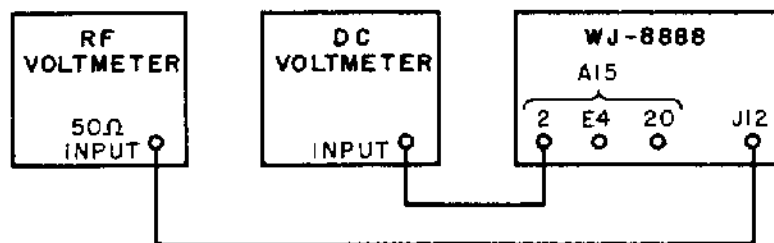

Figure 5-29. Test Setup, 1st LO Alignment
- (1) Turn the receiver off.
- (2) Connect the equipment as shown in Figure 5-29.
- (3) Turn the receiver on and put the RCVR CONTROL in the LOCAL mode.
- (4) Tune the receiver to 00.500 00 MHz.
- (5) The voltage at pin 2 of A15 should be approximately +9.7 V dc.
- (6) Observe the RF voltmeter while tuning slowly to 30.000 00 MHz. The LO output level should be +17 dBm (1.6 V) or greater throughout the range.
- (7) With the receiver at 30.000 00 MHz, the voltage at pin 2 of A15 should be approximately -9.7 V dc.
- (8) If the +9.7 volt and -9.7 volt specifications cannot be met, adjust the turns spacing of A15A1L1 and repeat steps 4 through 8 until the two conditions are met.
- (9) If the output level specification cannot be met, continue to step (10) to help in isolating the problem. There is no level adjustment for this output.
- (10) Turn the receiver off.
- (11) Disconnect the RF voltmeter from J12. Reconnect receiver plug P5 to J12.
- (12) Connect a troubleshooting type probe tip to the RF voltmeter cable and measure the RF output level at A15 pin 20. Through the range of 00.500 00 MHz to 30.000 00 MHz, this level should be -10 dBm (70 mV) or greater.